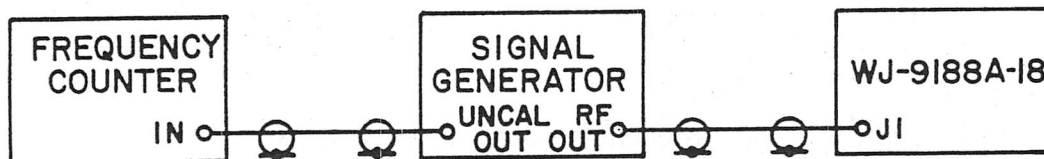

Figure 4-2. General Performance Test Procedures, Test Setup
1. Connect test equipment as shown in Figure 4-2. Energize all equipment.
1. Connect test equipment as shown in Figure 4-2. Activate all equipment.